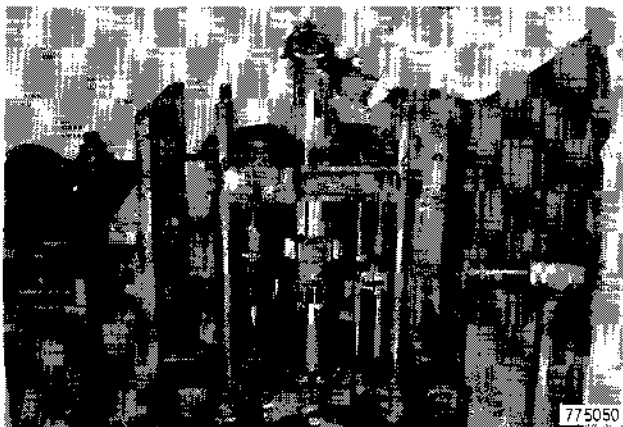

Figure 52
- 24. Remove spacer from pinion shaft, Figure 52.